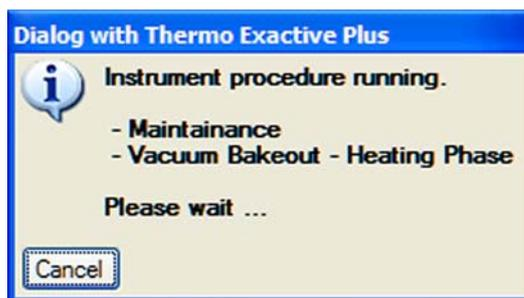

Figure 5-10. Message box: Vacuum Bakeout active
5. The message box disappears and the baking procedure starts. The instrument indicates the active bakeout procedure by a flashing Vacuum LED at the front side. Additionally, the Exactive Plus Tune software displays a corresponding message box. See Figure 5-10.